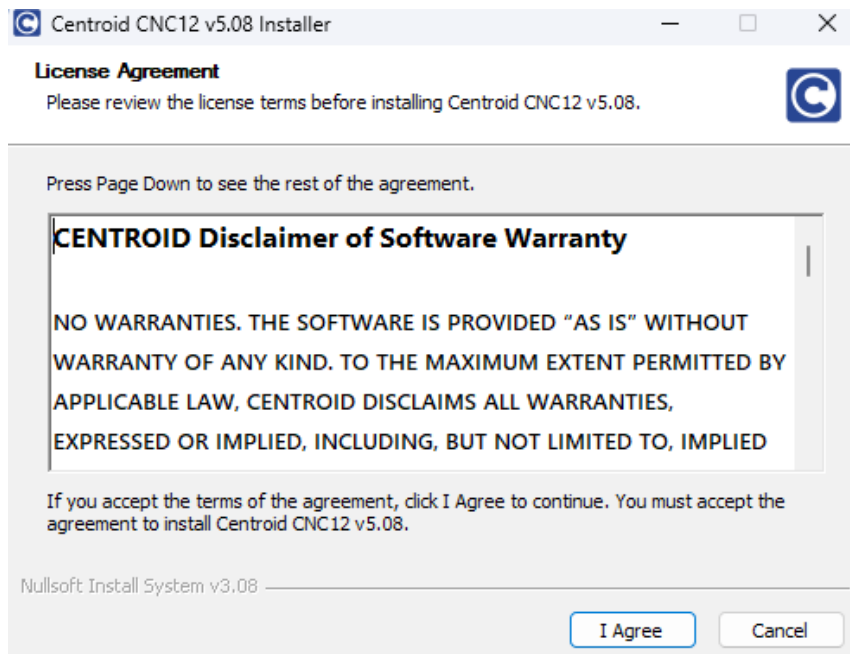

Figure 3.2.2
6. **Read License Agreement** Read the Software license agreement for using the CNC12 Software. If you accept the terms of the agreement, click “I Agree” to continue, Otherwise, click “Cancel” as seen in figure 3.2.2.